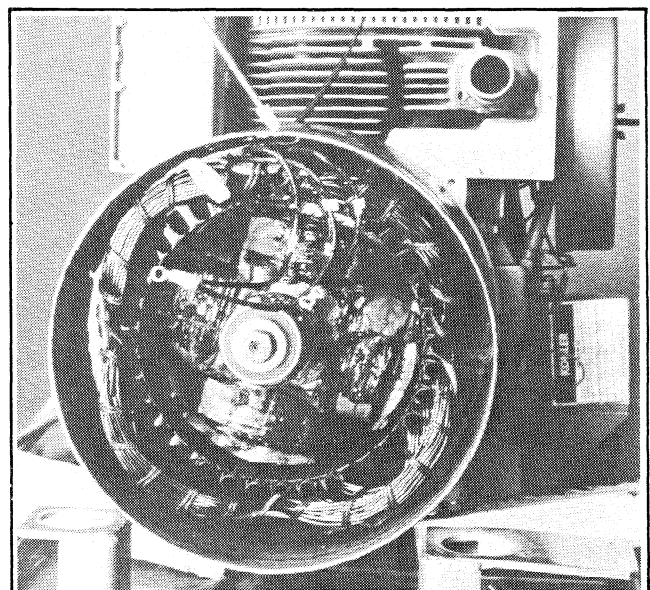

Figure 6-32. Stator and Rotor
3. Slide the stator into position making sure the leads are at 12 o'clock position (Figure 6-32).